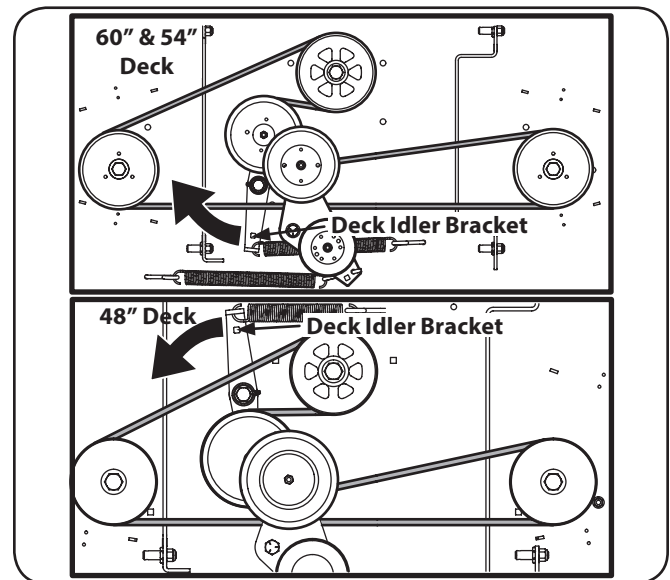

Figure 7-7
5. Using a $\frac{1}{2}$ " drive insert the male end into the $\frac{1}{2}$ " square opening in the deck idler assembly and rotate the idler clockwise on the 60" and 54" decks and counter-clockwise on the 48" deck. See Figure 7-7. While holding the deck idler, loosen the deck belt from the pulley and slide the belt away from the pulley.
6. Route the new belt as shown in Figure 7-7. Then reinstall the deck and PTO belt as instructed on page 34.